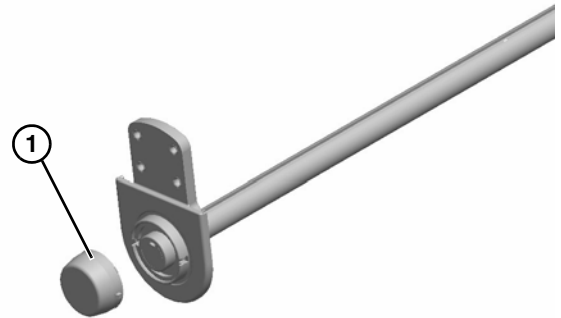

Figure 35
- Remove bearing cover (Figure 35, item 1).